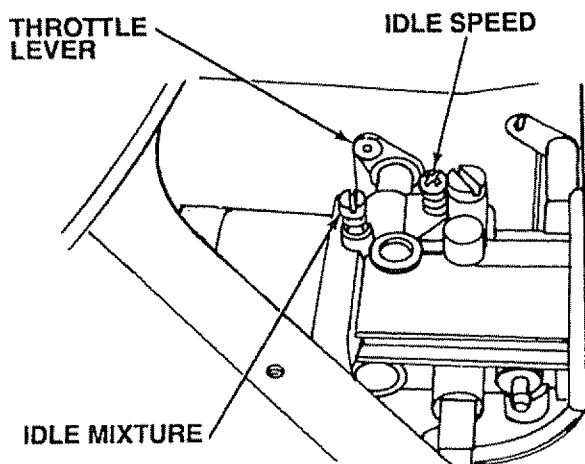

FIGURE 24
- a. Gently turn idle mixture valve clockwise (Fig. 24) until it just closes and then counterclockwise 1 – 1/2 turns.
- d. Hold throttle control lever against idle speed screw, and adjust idle speed screw to obtain 1300 to 1500 RPM (Fig. 24).